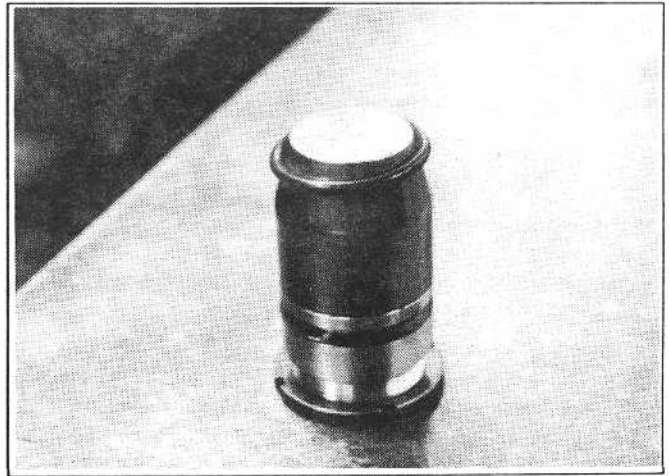

Figure 4-4
6. Assemble the "O" ring into the outside groove on the gland. The "O" ring, when assembled, should be next to the groove side away from the threaded end of the gland. Make sure that the backup ring is not under the "O" ring after assembly. (See figure 4-4)